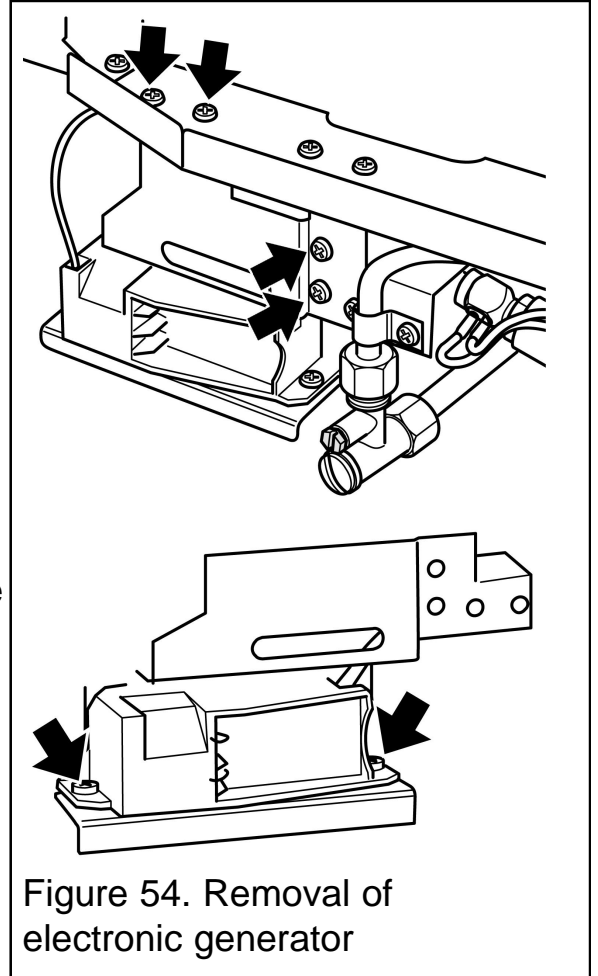

Figure 54. Removal of electronic generator
5. Unscrew the four support bracket screws (See figure 54). The generator and its support bracket can now be moved forward. Be careful not to apply tension to the microswitch leads.
6. Remove the two fixing screws that attach the generator unit to the support bracket. The igniter generator can now be removed (See figure 54)